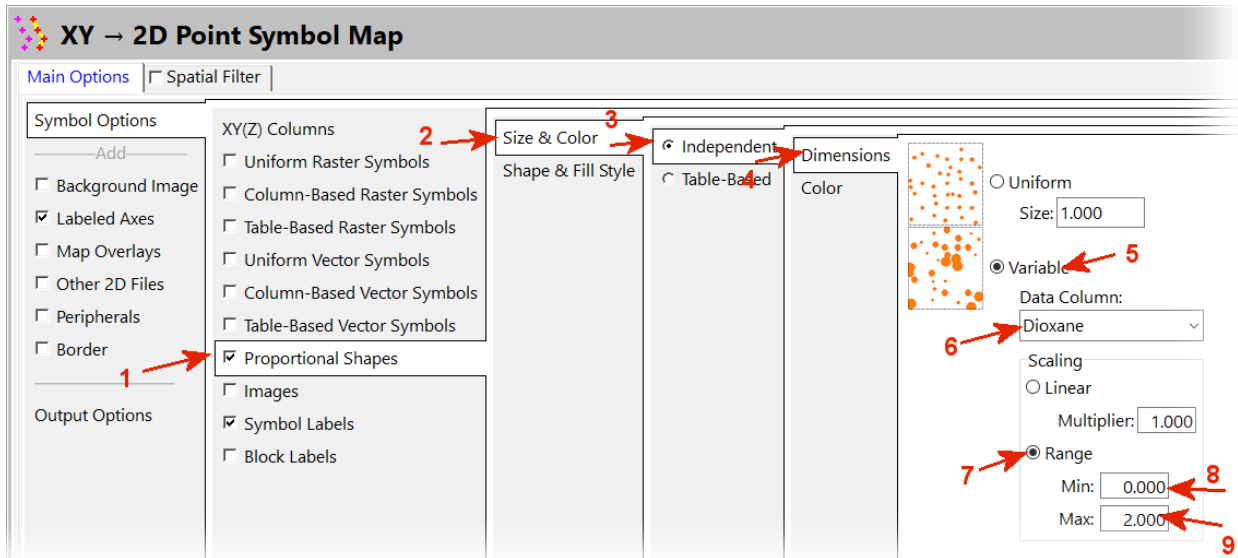

Figure 24
- As shown within Figure 24, check the *Proportional Shapes* option (1) and then set the *Size & Color* (2) to be *Independently* (3) defined for each sample point. Set the dimensions to be *Variably* (5) scaled based on the Dioxane (6) values such that the smallest value will be plotted at 0% of the map size (8) while the largest Dioxane values will be plotted at 2% of the map size (9).